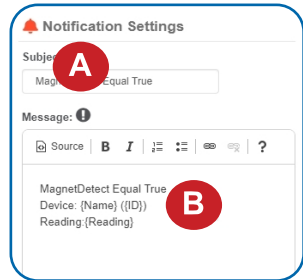

Figure 22
See Figure 22.
- B.** Customize the message body for the notification. See Figure 22.